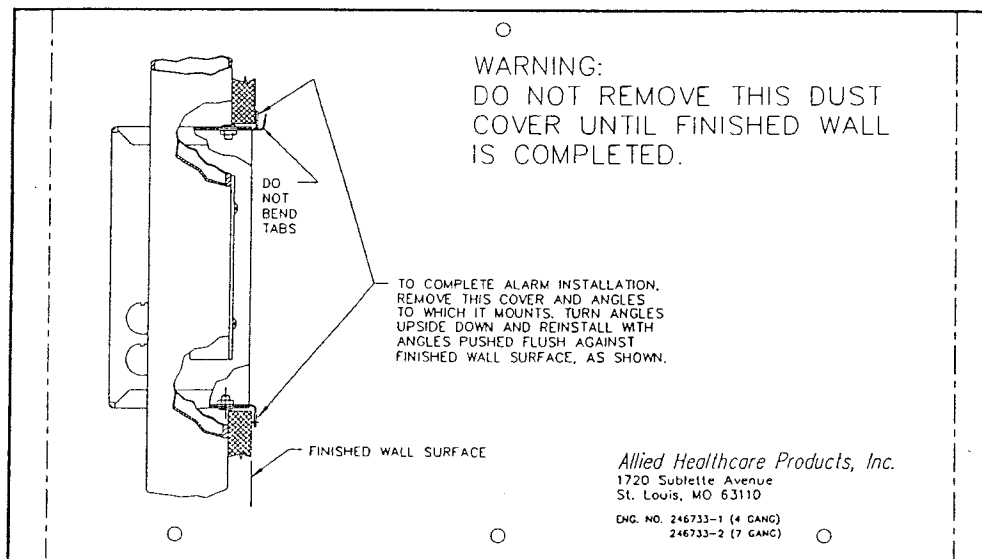

Figure 10 – Dust Cover and Angels Orientation
4.2.1 Remove the Dust Cover and angles, to which it mounts, from the Back Box (see Figure 10). Turn angles upside down and reinstall with angles pushed flush against finished wall surface.